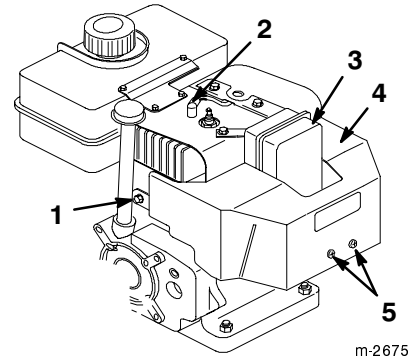

Figure 25
If you operate the engine when the air temperature is above 40°F (4°C), remove the carburetor heater box (Fig. 25).
1. Disconnect the wire from the spark plug and make sure that the wire does not contact the plug (Fig. 25).
4. Remove two Phillips screws, two hex head screws, and one lock washer that secure the carburetor heater box in place (Fig. 25).
8. Connect the wire to the spark plug (Fig. 25).